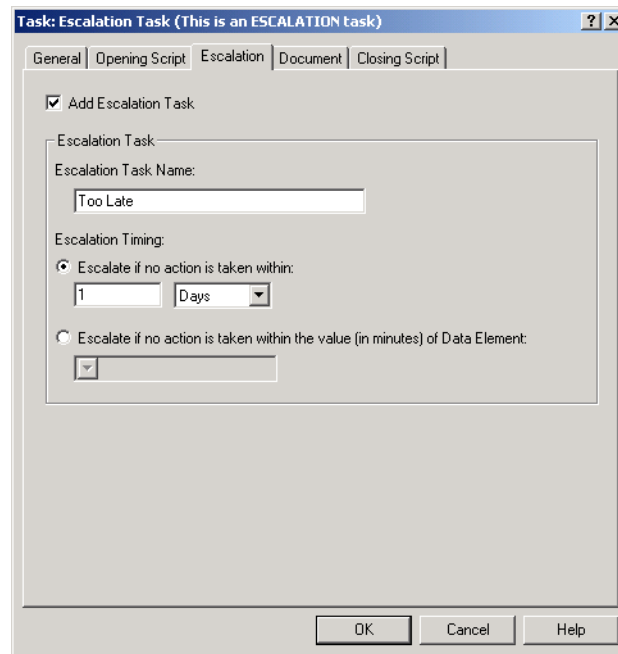

Figure 35-2. A task configuration dialog's **Escalation** tab.
- ❶ To create an escalation task, click on the task you want to associate with an escalation task, then click the **Escalation** tab. (see Figure 35-2, below).